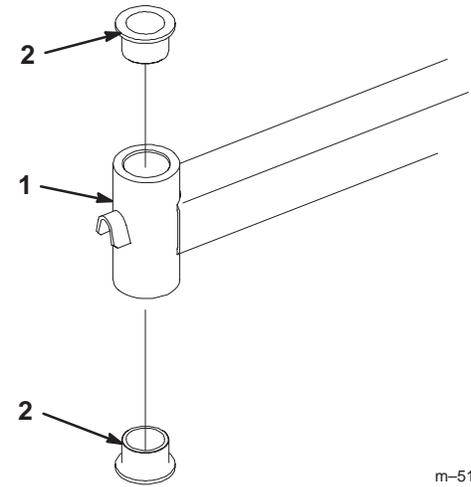

Figure 67
4. Insert a pin punch into the mounting tube and carefully drive out the bushings (Fig. 67). Clean the inside of the mounting tube.